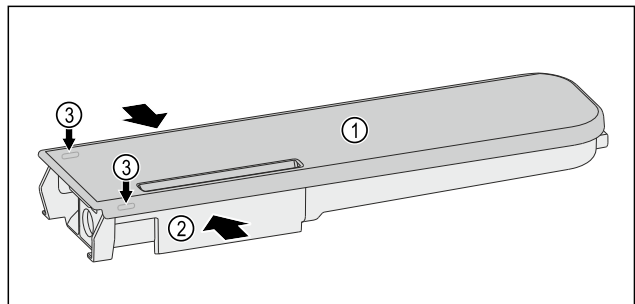

Fig. 151
- ▶ Push the water tanks Fig. 151 (2) together, leverage the cover Fig. 151 (1) carefully over the latching tabs Fig. 151 (3) and lift it up.
- ▶ Move the cover Fig. 151 (1) slightly forwards and back, and remove to the top.